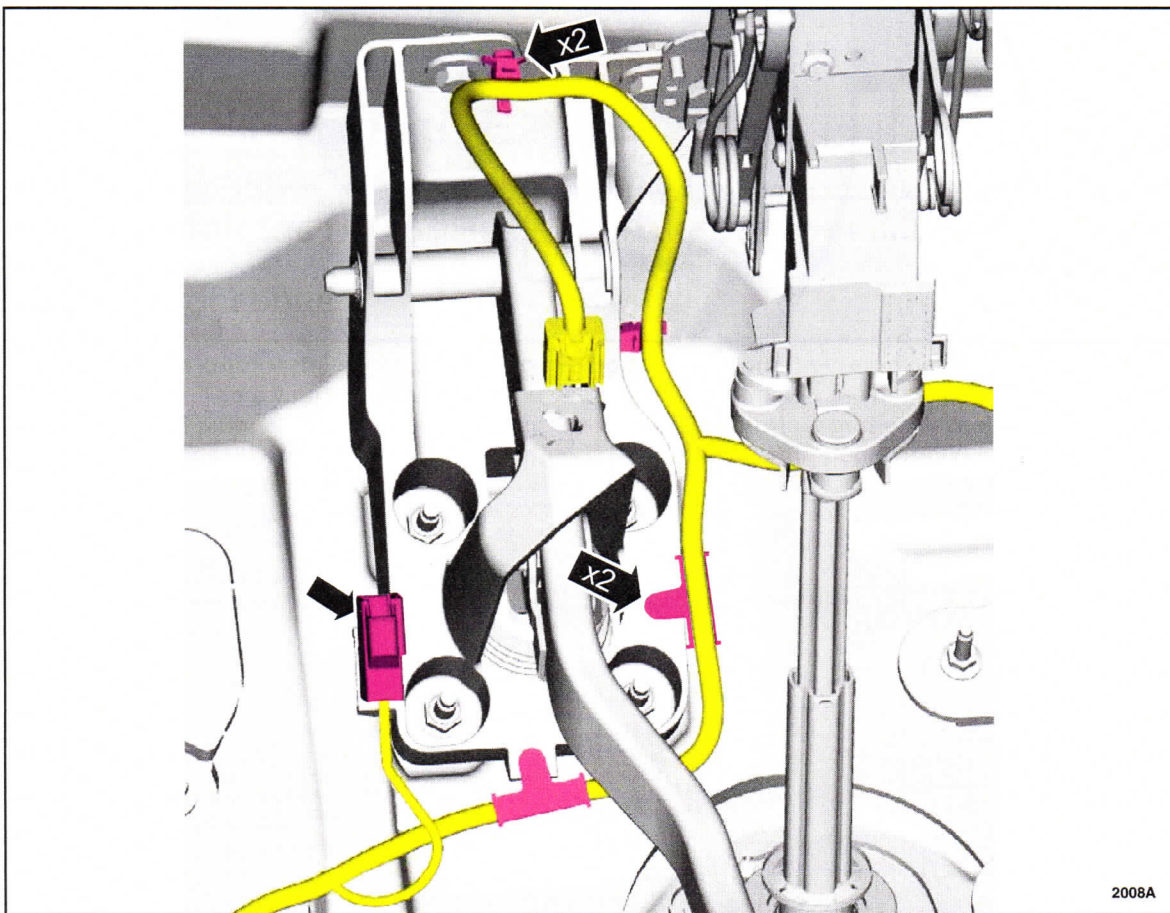

FIGURE 1
2. Detach the wiring harness retainers. See Figure 1.